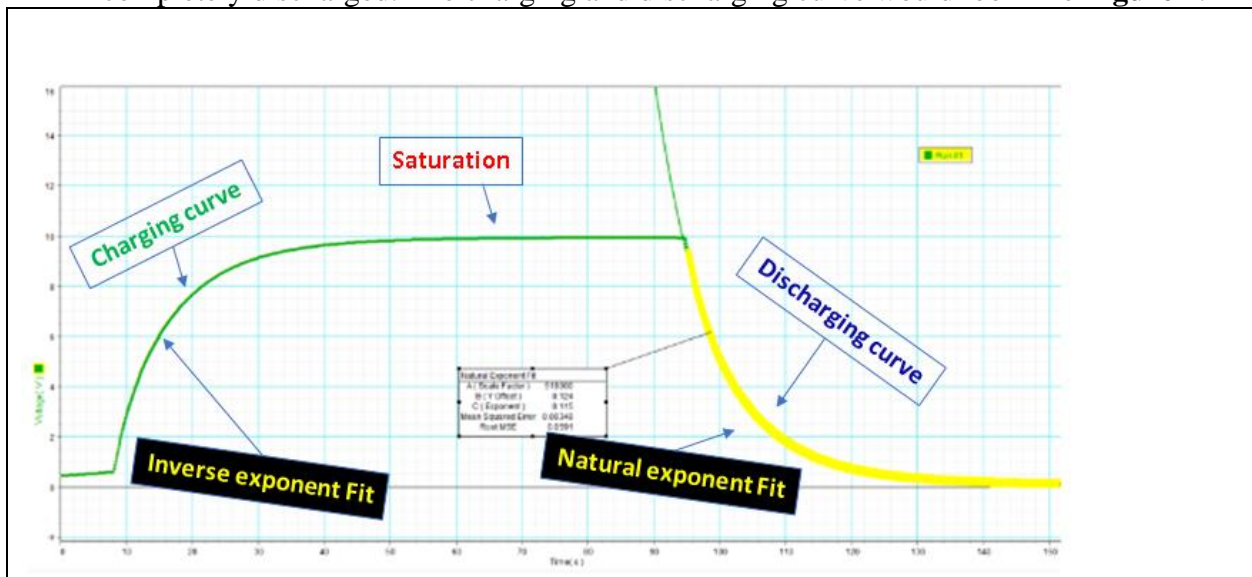

Figure 2: Charging and discharging curves taken by Data Studio
17. Once the voltage reading in the data studio saturates to V_0 disconnect points 1 and 2 and connect 1 and 3. The voltage goes down and you get a discharged curve. Stop the software once the voltage turns to a flat line (almost zero V). This means the capacitor is completely discharged. The charging and discharging curve would look like **Figure 2**.